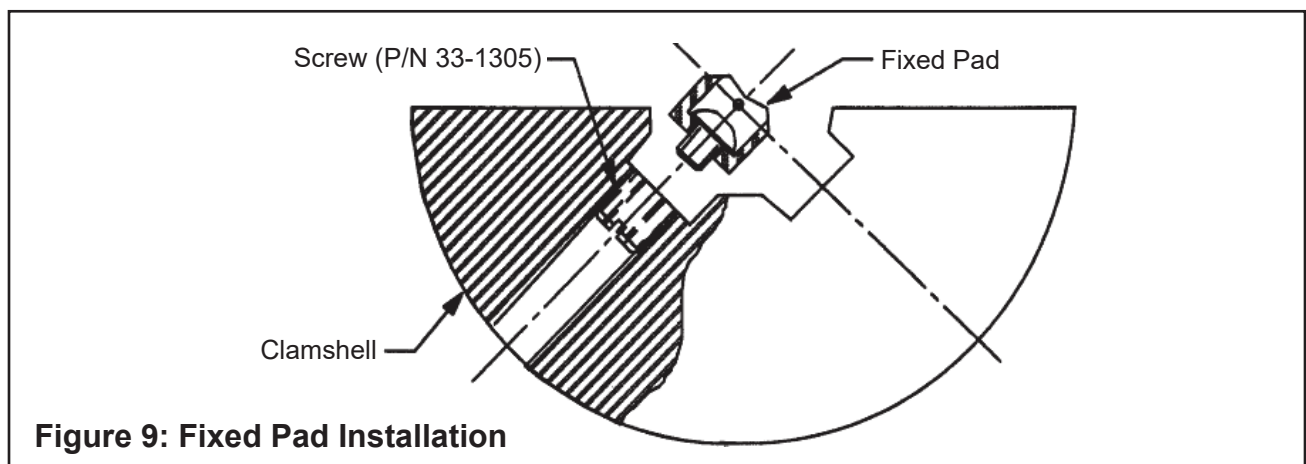

Figure 9: Fixed Pad Installation
1. Insert the Screw (P/N 33-1305) into the housing from the outside with a blade-type screwdriver to the depth shown in Fig. 9.
- Roughly center and square the Clamshell by tightening the four (4) Clamping Pads independently.
5. Adjust the four (4) Clamping Pads so that the measurements at opposing Clamping Pads are the same.